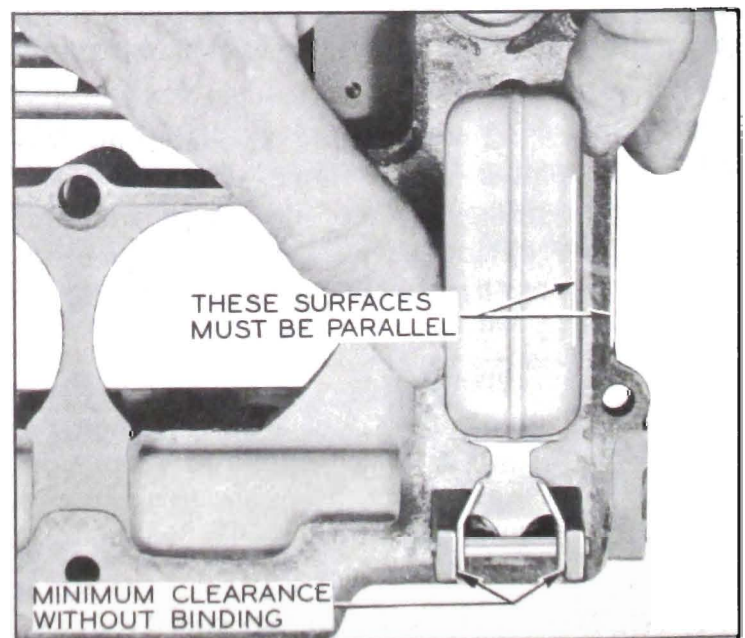

Figure 3-50—Float Alignment
9. *Align Float.* Sight down side of float to determine if side is parallel with outer edge of air horn. If adjustment is necessary, bend float lever by applying pressure to end of float with fingers while supporting float lever with thumb. See figure 3-50.